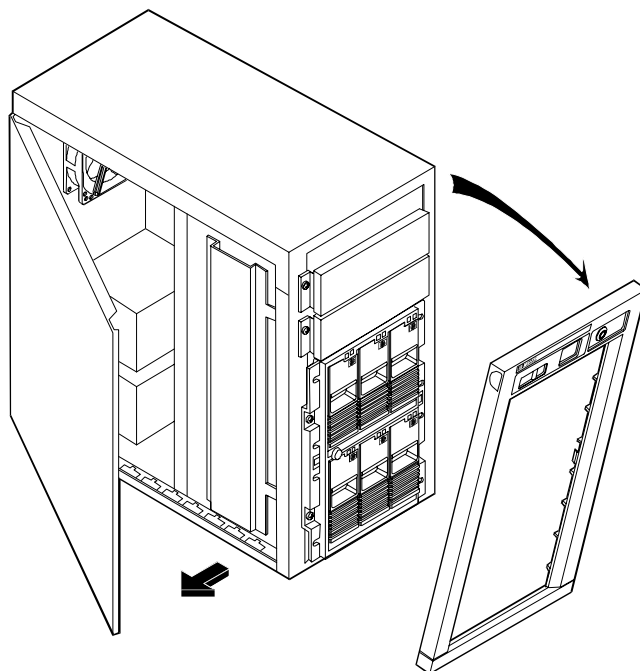

Figure 2-1. Removing the Bezel and Opening the Door
4. Remove the front bezel. Pull the top of the bezel forward, swinging it down to clear the retaining clips at the bottom of the chassis. Lift the bezel away from the chassis, as shown in Figure 2-1.
6. Swing the door open, as shown in Figure 2-1.
The following is a description of the switch settings on the rear of the hot-swap subsystem cage (see Figure 2-1). The default switch setting is described in the “Cabling Configurations” section of this chapter.